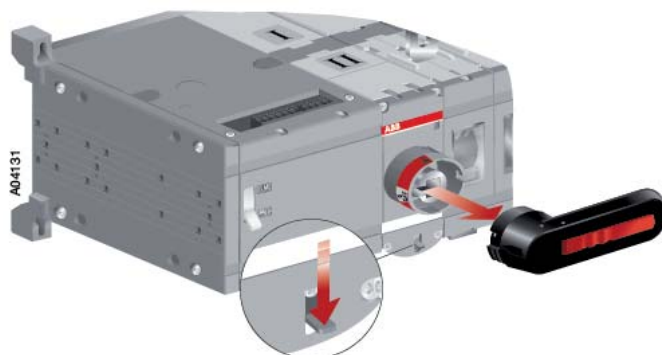

Figure 6.1 Releasing the handle
1. Release the handle from the change-over switch panel by pressing down the locking latch under the switch panel and pulling the handle off, see Figure 6.1.